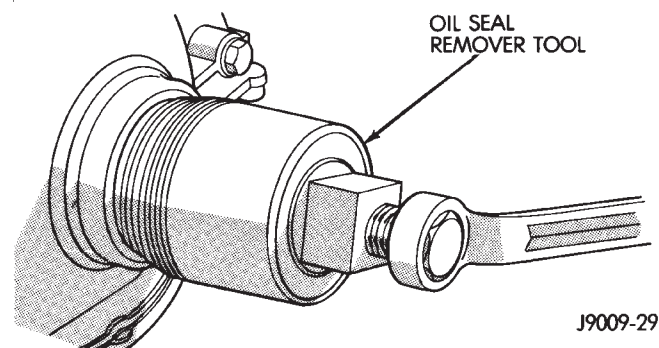

Fig. 2 Timing Case Cover Oil Seal Removal
(1) Disconnect negative cable from battery.
(2) Remove the serpentine drive belt.
(3) Remove the vibration damper.
(4) Remove the radiator shroud.
(5) Carefully remove the oil seal (Fig. 2). Make sure seal bore is clean.